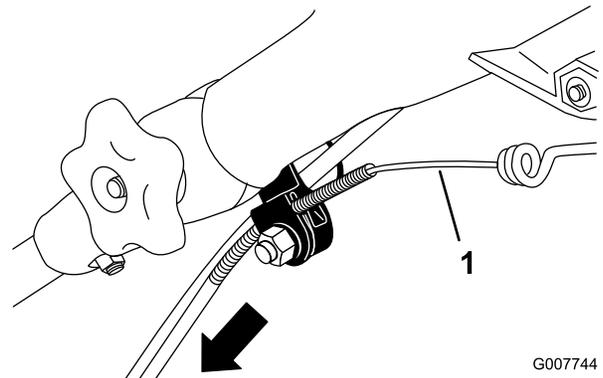

Figure 46
3. Pull the cable jacket downward until you remove the slack in the exposed cable (Figure 46).